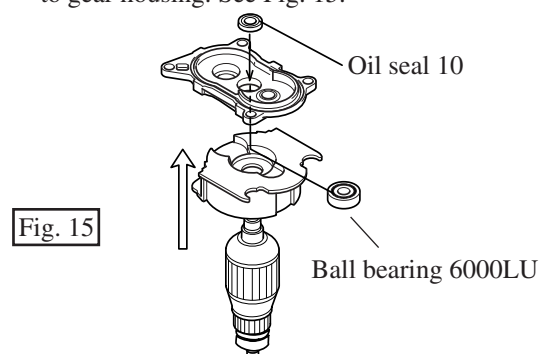

Fig. 15
- (8) In advance, assemble ball bearing 6000LU and oil seal 10 to gear housing by pressing. And then, assemble armature and baffle plate to gear housing. See Fig. 15.